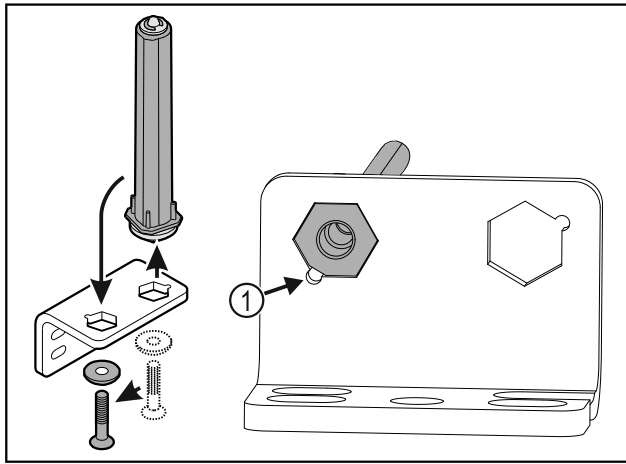

Fig. 26
- ▶ Make sure the pin chamfer Fig. 26 (1) faces the round hole when you put it in.